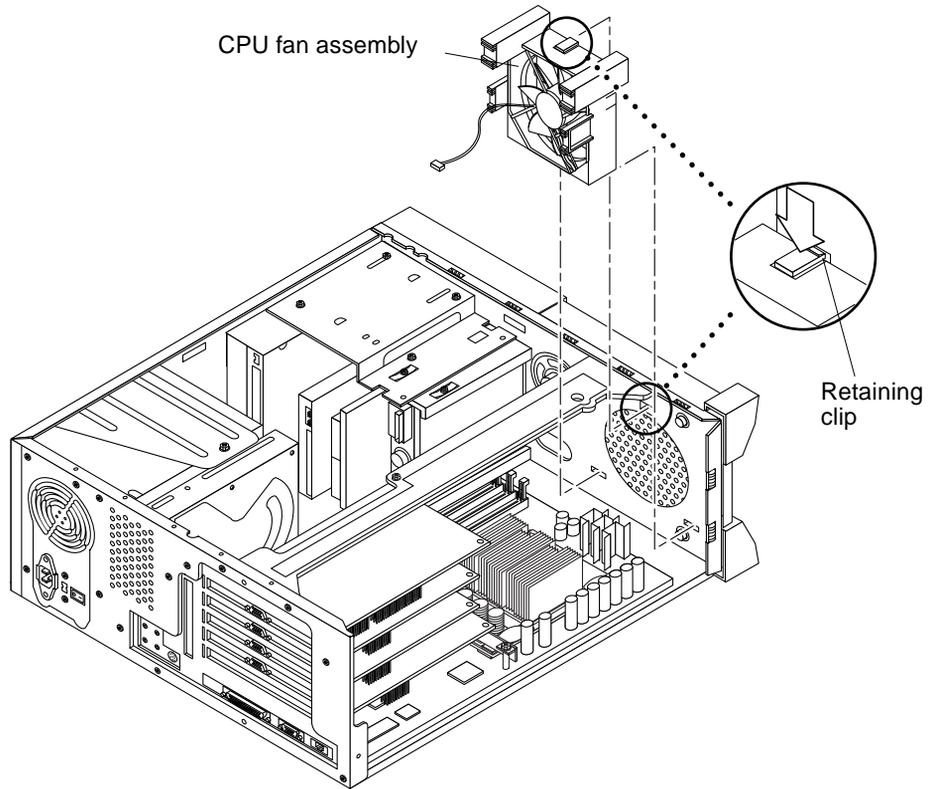

FIGURE 8-14 Removing and Replacing the CPU Fan Assembly (Ultra 10)
6. Remove the CPU fan assembly from the Ultra 10 as follows (FIGURE 8-14):
- 4. Replace the CPU fan assembly into the Ultra 10 as follows (FIGURE 8-14):**